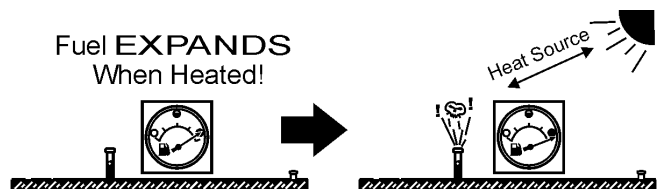

Figure 37. Fuel Expansion
**DO NOT OVERFILL** fuel system. Leave room for fuel expansion. Fuel expands when heated (Figure 37).